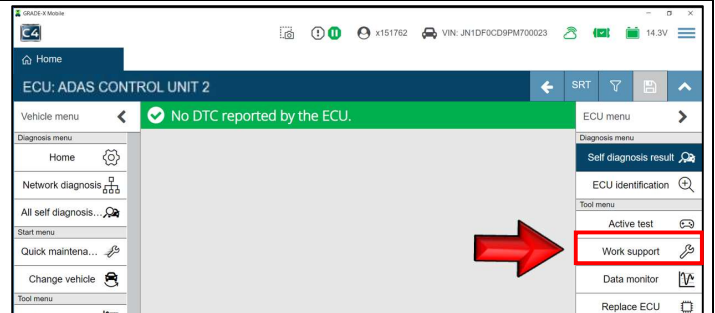

Figure 34
31. Select **Work support**. (Figure 34)